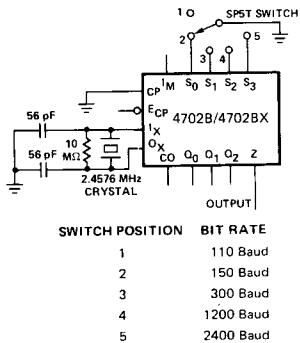

Fig. 1
**Single Channel Bit Rate Generator** — *Figure 1* shows the simplest application of the 4702B/4702BX. This circuit generates one of five possible bit rates as determined by the setting of a single pole, 5-position switch. The bit rate output (Z) drives one standard TTL load or four low power Schottky loads over the full temperature range. The possible output frequencies correspond to 110, 150, 300, 1200, and 2400 Baud. For many low cost terminals these five bit rates are adequate.